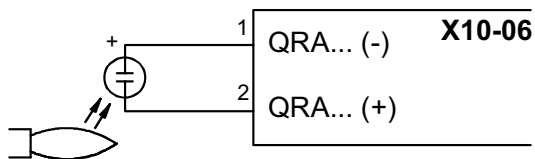

Fig. 39
- Examine and clean the detection photoelement, replace it if necessary (see page 50), in case of doubt, check the detection circuit, after the burner start-up (see Fig. 39);
To check the detection current follow the diagram on Fig. 39. If the signal is less than the value indicated, check the position of the detection electrode or detector, the electrical contacts and, if necessary, replace the electrode or the detector.